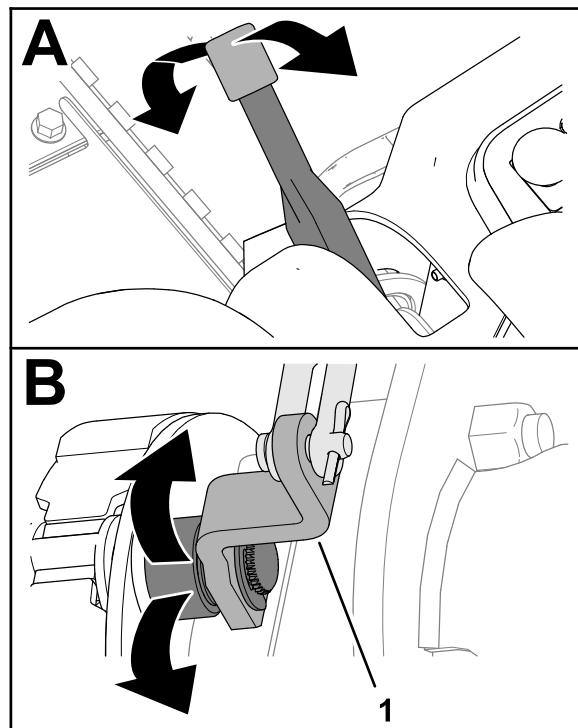

Figure 70
2. Move the parking brake lever up and down to check that the lever for the brake-cam lever moves freely (Figure 70).